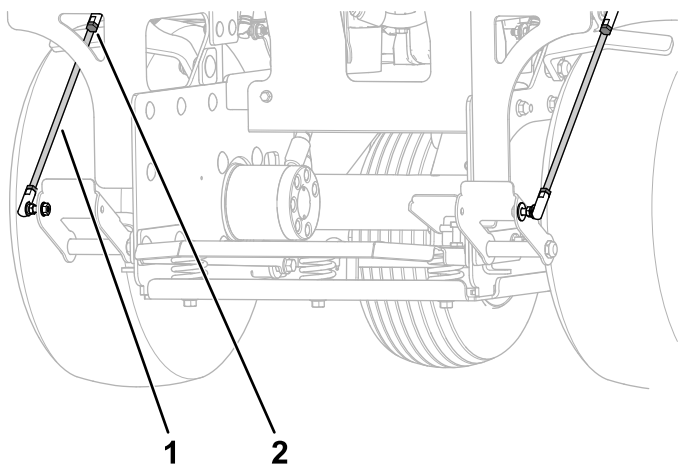

Figure 90
4. Loosen the 2 jam nuts on the brake linkage at the rear of the machine (Figure 90).
5. To increase the brake force, turn the linkage counterclockwise 1 to 2 turns (Figure 90).
7. Tighten the 2 jam nuts (Figure 90).